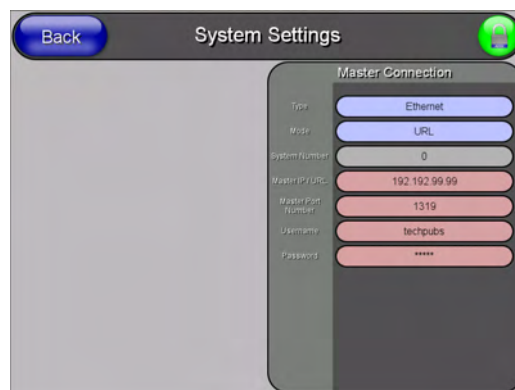

FIG. 29 System Settings page
2. Select *Type* to toggle between the Master Connection Types *USB* and *Ethernet* (FIG. 29).